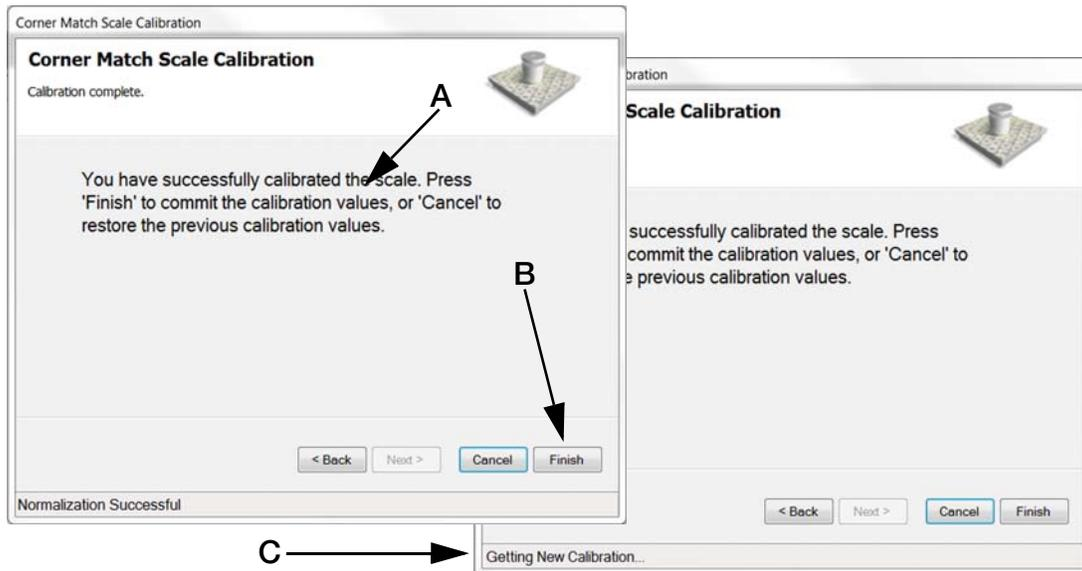

Figure 4-27. Finish Calibration
13. A message that you have successfully calibrated the scale will appear (Figure 4-27 A). Then press **Finish** (Figure 4-27 B). **Getting New Calibration** appears at the bottom of the frame (Figure 4-27 C). When done, the pop-up box will disappear and calibration is complete.